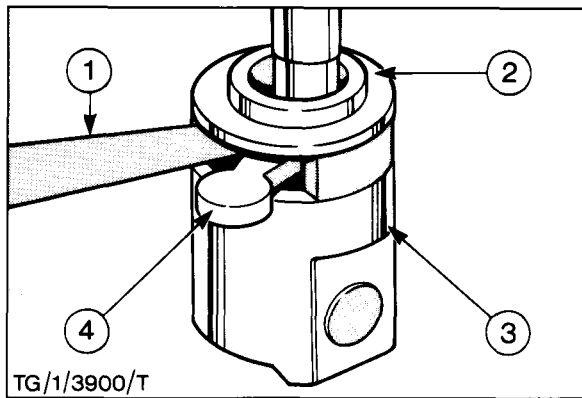

Fig. 61 - Checking Plunger Arm Clearance
5. Check the clearance between each tappet phasing spacer and its plunger. Hold the plunger and lower spring seat in position on the tappet and check with a feeler gauge that the clearance between the plunger arm and seat is as specified. If necessary, change the spring seat (Fig. 61).